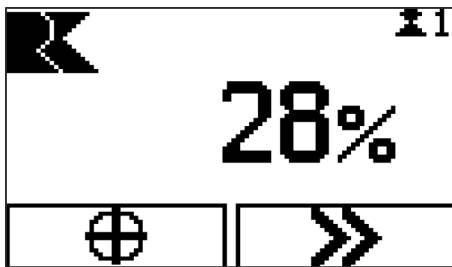

Fig. 42: 'Absolute positioning' mode
- Absolute positioning (Fig. 42)
⇒ The display screen switches to 'Absolute positioning' mode (Fig. 42).